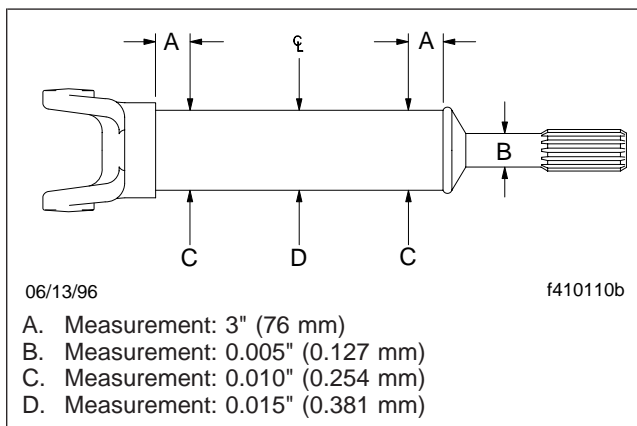

Fig. 4, Driveshaft Runout Specifications
0.005 inch (0.127 mm) on the slip-joint-seal surface of the splined shaft, 0.010 inch (0.254 mm) on the tube 3 inches (76 mm) from the front and rear welds, and 0.015 inch (0.381 mm) at the center of the tube, replace the tube. See Fig. 4.